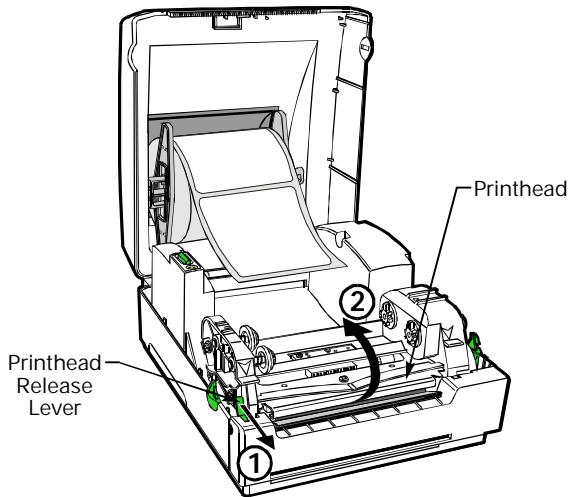

Figure 12
5. Place the media roll in the top cover (refer to Figure 12).
6. Release the printhead by pulling the printhead release lever toward you (refer to Figure 12, “1”).
7. Lift the printhead (refer to Figure 12, “2”) until you feel it “lock” into place. Be careful not to force the printhead past this position!